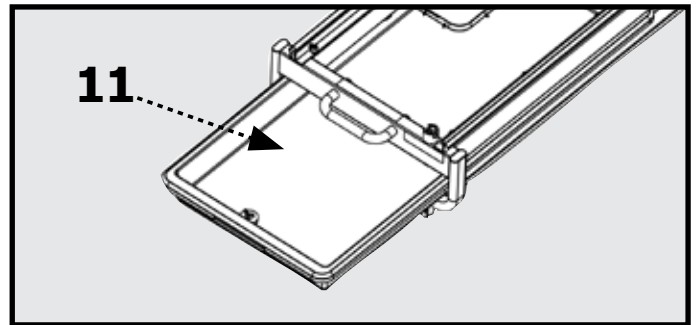

Figure 5
Insert Water Tray (11) by sliding it into the Main Frame (1) as shown in Figure 5.